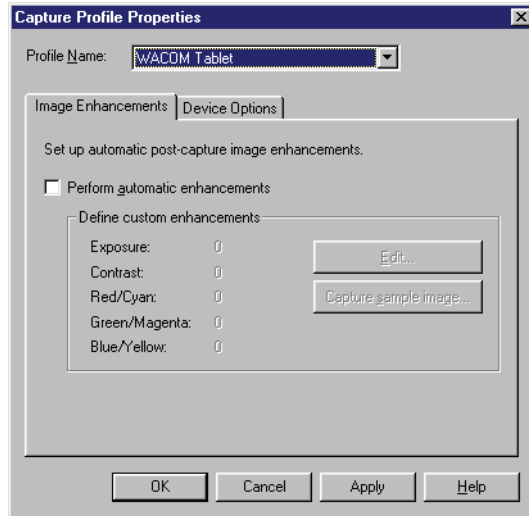

Figure 9-28: Capture Profile Properties
3. To set the digital tablet's operating parameters, click on the  button. The Capture Profile Properties window appears, displaying the Image Enhancements tab (see Figure 9-28 on page 25 of this section).